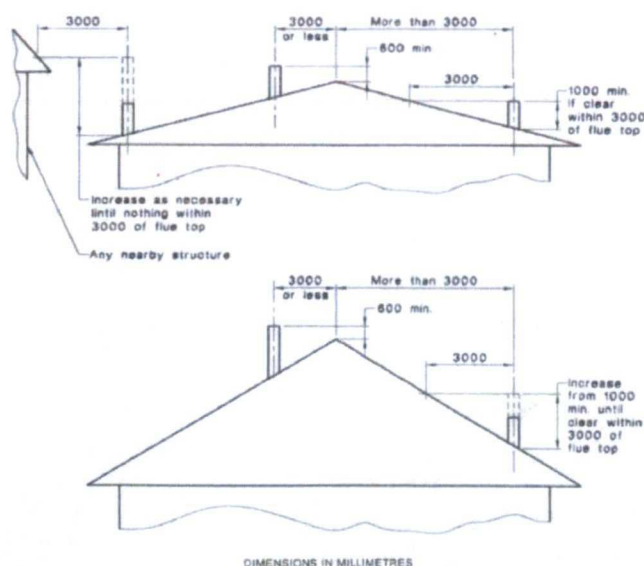

Figure 1. Minimum height of flue system as per AS/NZS 2918:2001
4.	If the flue is 3m or less in horizontal distance from the highest point of the roof, is the top of the flue at least 600mm above highest point of the roof? (see Figure 1)
5.	If the flue is over 3m metres in horizontal distance from the highest point of the roof, is the height of the flue at least 1000mm above the roof penetration? (see Figure 1)